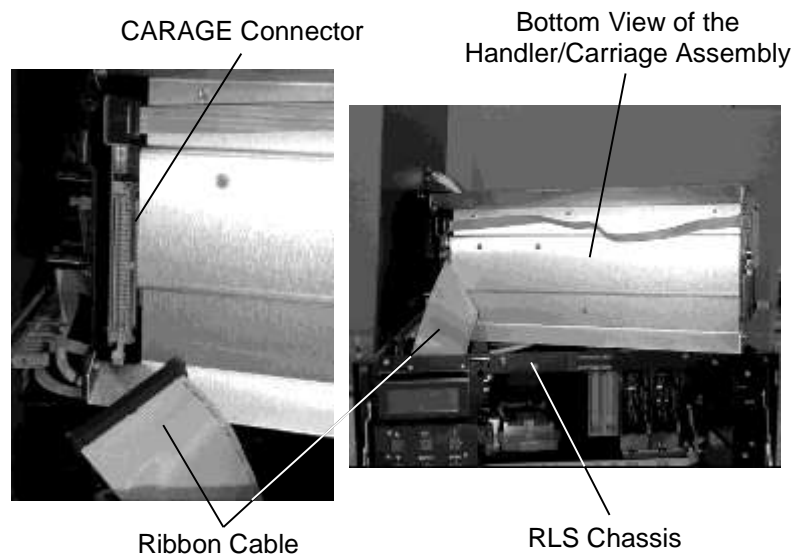

Figure 7-6 Carriage Assembly on the Chassis with a Detail of the Ribbon Cable
6. Place the thumb and second finger of each hand into the pair of grip holes on the left and right sides of the Carriage Assembly top plate. If the slider is blocking a pair of holes, gently push it out of the way. Lift the Carriage Assembly straight up and out. When the assembly has cleared the chassis, rotate it and place its backside on top of the chassis. See Figure 7-6.
7. Disconnect the wide ribbon cable from the bottom, left side of the Carriage Assembly. The assembly may now be set aside. See Figure 7-6.
1. Place the Carriage Assembly on its backside on top of the chassis and then position it so that the ribbon cable can reach its mating connector. See Figure 7-6.
2. Connect the ribbon cable to the CARAGE connector. See Figure 7-6.